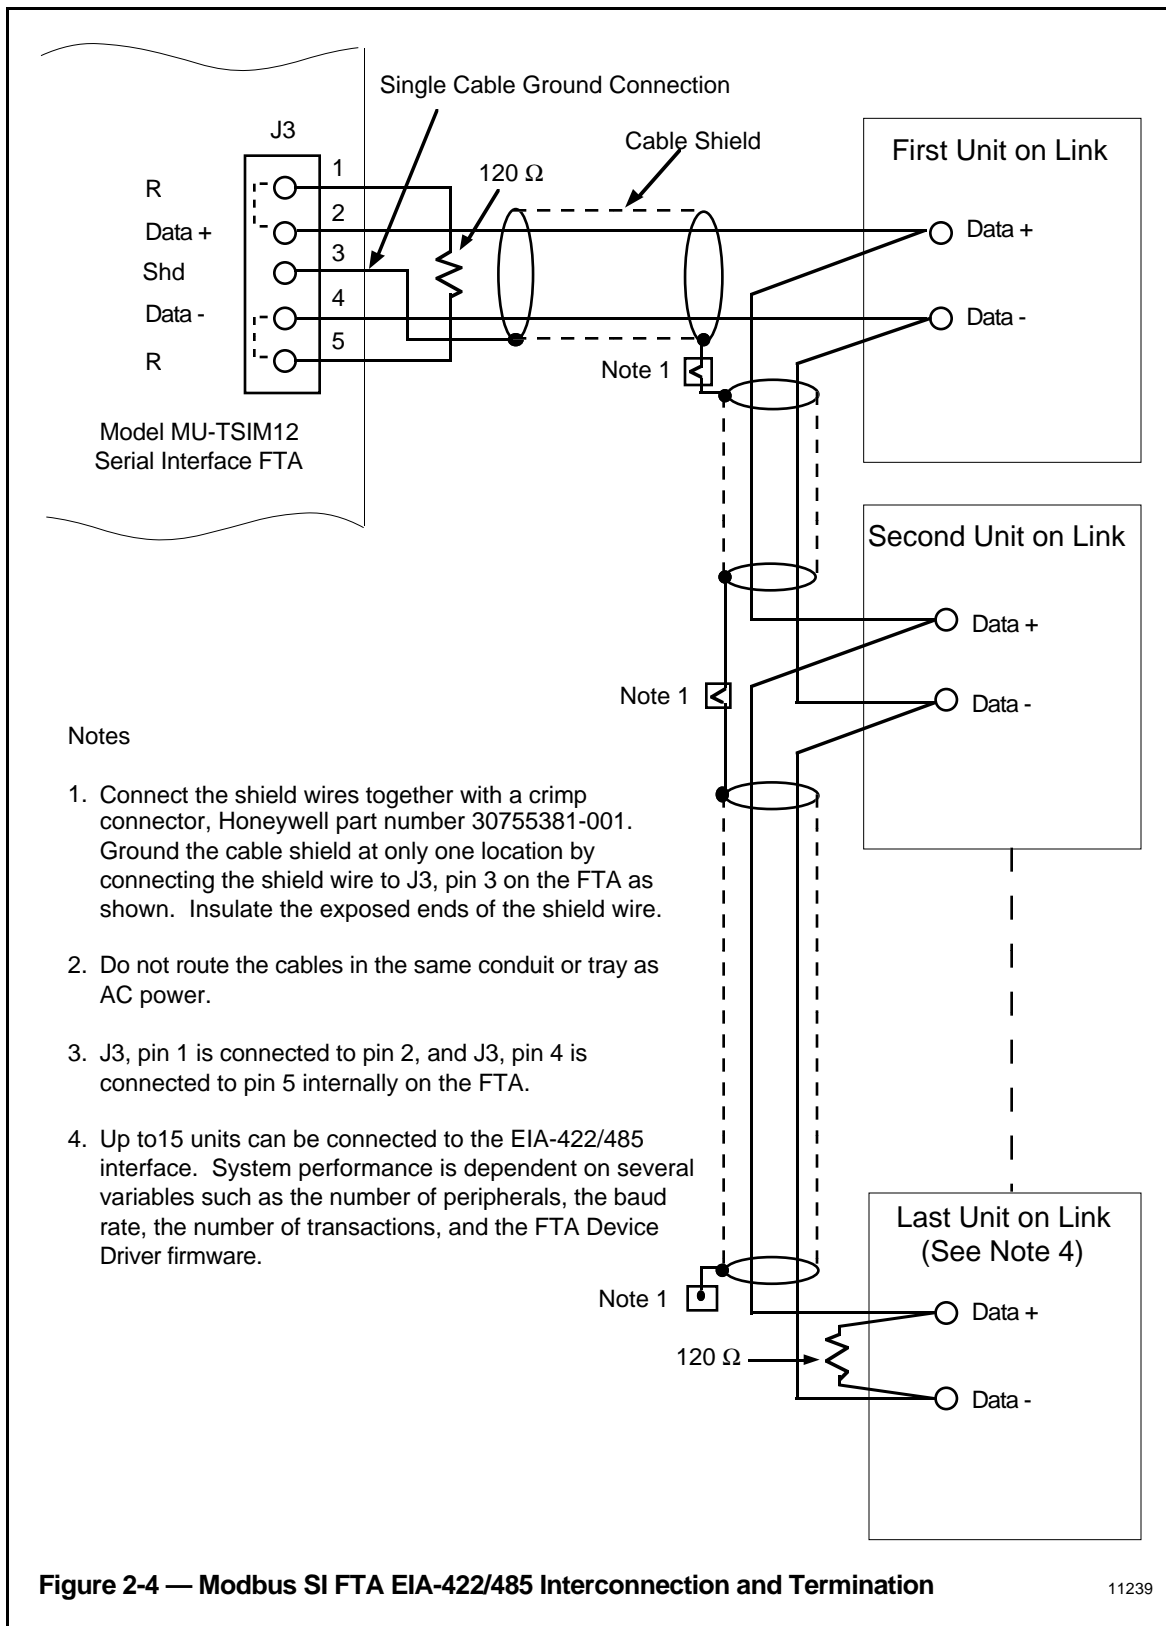

Figure 2-4 — Modbus SI FTA EIA-422/485 Interconnection and Termination
- To avoid potential ground loops, the signal cable shield must be connected to the Shield (SHD) pin only at the FTA end of the cable (see Figure 2-4).
- To minimize signal reflections, a 120 ohm 1/2 watt resistor should be connected between pins 1 and 5. The **Data +** and **Data –** signals should be similarly terminated with a 120 ohm resistor on the device at the extreme end of the cable. Figure 2-4 illustrates the method of terminating the EIA-422/485 interface.
The EIA-422/485 interface can be configured as a multidrop interface in which several peripheral devices can be connected. Refer to Figure 2-4 for important connection details.